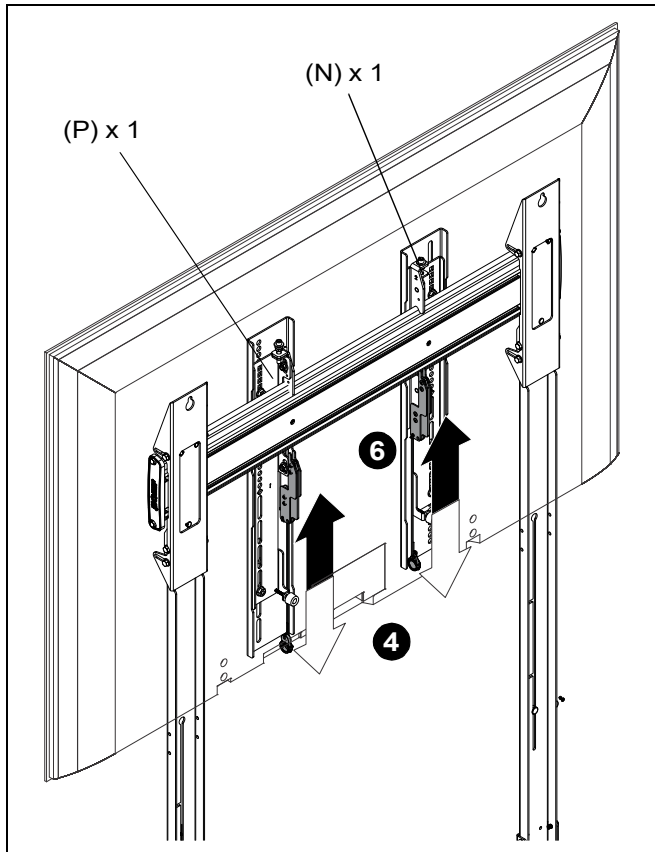

Figure 29
5. Ensure that the latch mechanisms on interface brackets (N/P) are already lowered. (See Figure 29)
6. While supporting both sides of display, lower display onto center of mounting rail (B), hooking top of interface brackets onto front of mounting rail (B). (See Figure 29)
7. Raise the latch mechanism on both interface brackets to lock bracket in place. (See Figure 29)